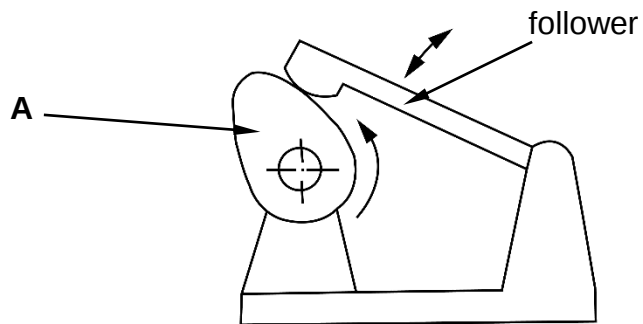

Fig. 6
- 9 Figure 6 shows a mechanism.